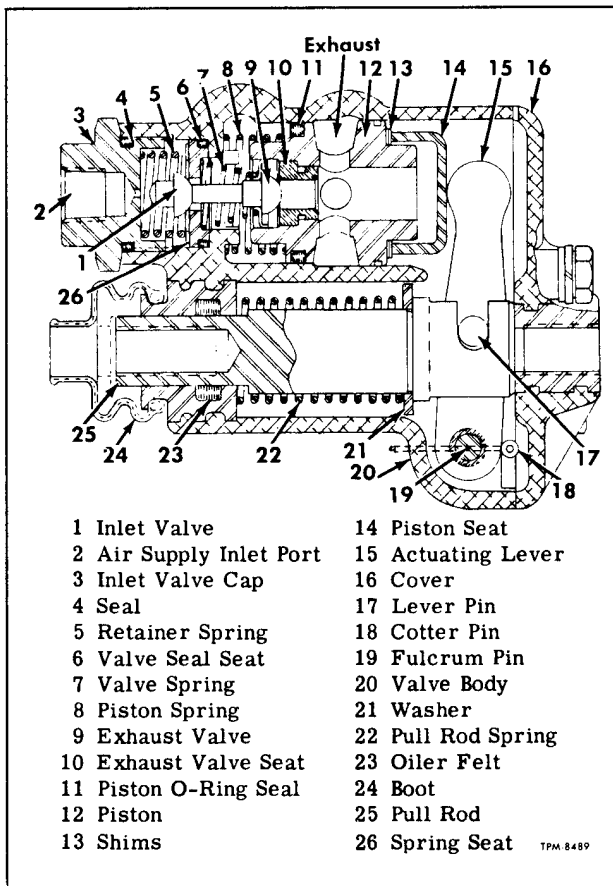

Figure 6—Cross Section of Air Control Valve
Key numbers in text refer to figure 6 unless otherwise indicated.
1. Place dust boot (24, fig. 6) on valve body, then screw rods (1 and 3) into control valve. A lock nut must be in place on rod (3) which is installed in the cover end of the valve.